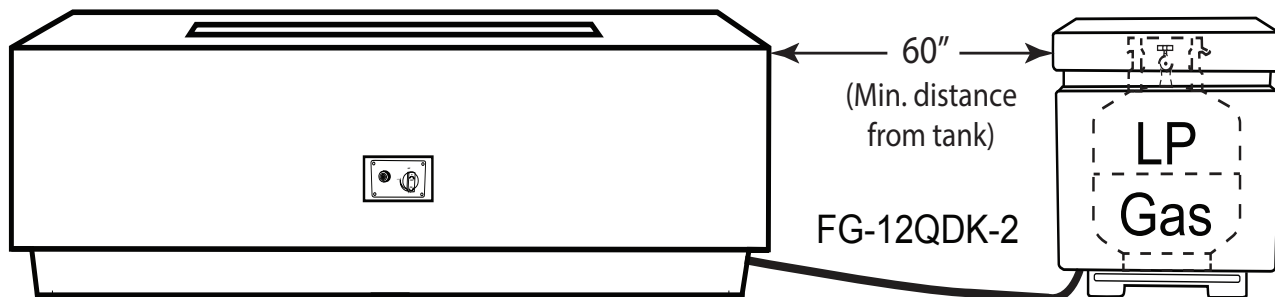

Fig. 4 Shows optional way to plumb gas to the fire pit.
The Sanctuary 1 and 176 can be plumbed with either Natural or Propane (LP) gas. See Fig. 4. If you choose to run hard pipe to Sanctuary models enter through center (bottom) of the bowl; protrude pipe no higher than 6" above ground level.